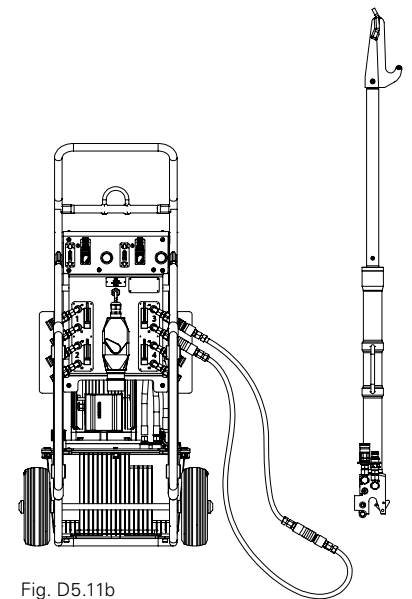

Fig. D5.11b
6. Switch on the hydraulic pump and flush hydraulic twin hose for approx. 1 minute by operating the hand valve. (Fig. D5.11b)